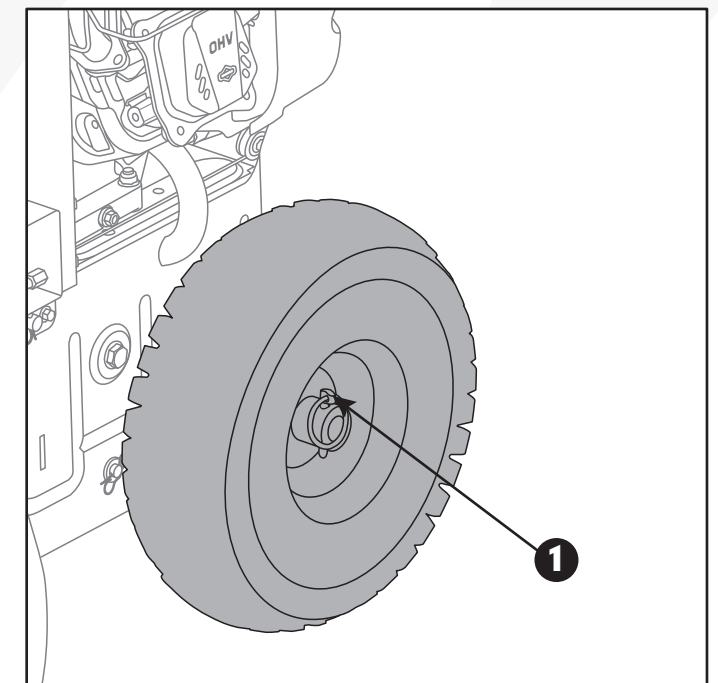

Fig. 2C
3. Reassemble the wheel onto the axle, secure the wheel with axle pin, and fold ring around axle to hold in place. (Fig. 2C)